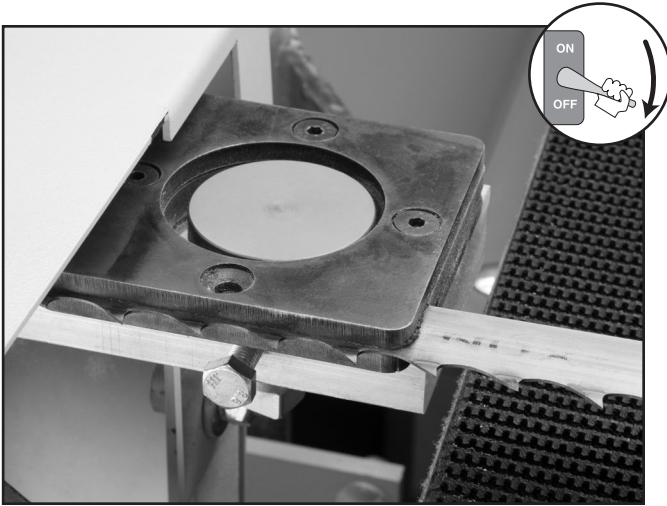

Figure 20. Blade positioned between guides.
5. Carefully fit the blade over each wheel, and position it between the blade guides as shown in **Figure 20**. Make sure the teeth point toward the right-hand side of the machine, as you are facing the front.